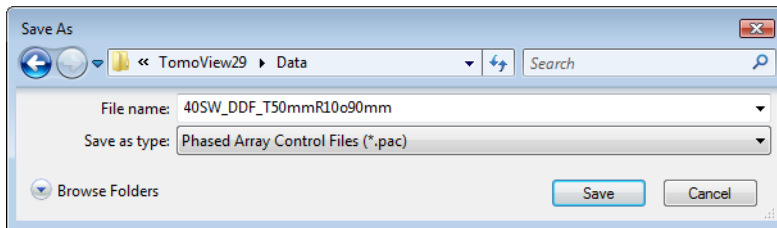

Figure 4-57 The Save As dialog box
- d) Click **Save** (see Figure 4-57 on page 100).